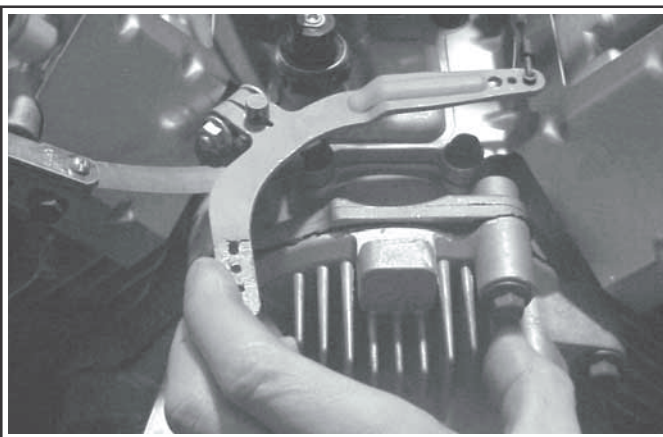

Figure 2.
3. Move the governor lever **TOWARDS** the carburetor as far as it will move (wide open throttle), and hold it in that position. See Figure 2.